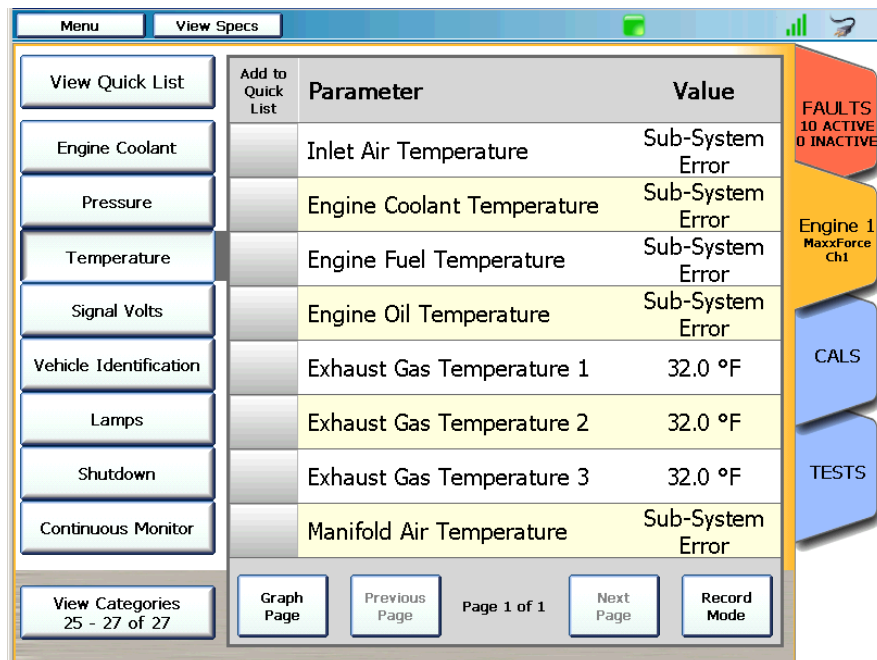

Figure 4.19 List of Parameters
- 4 Touch the green **Back Arrow** to return to the list of parameters (Figure 4.19).